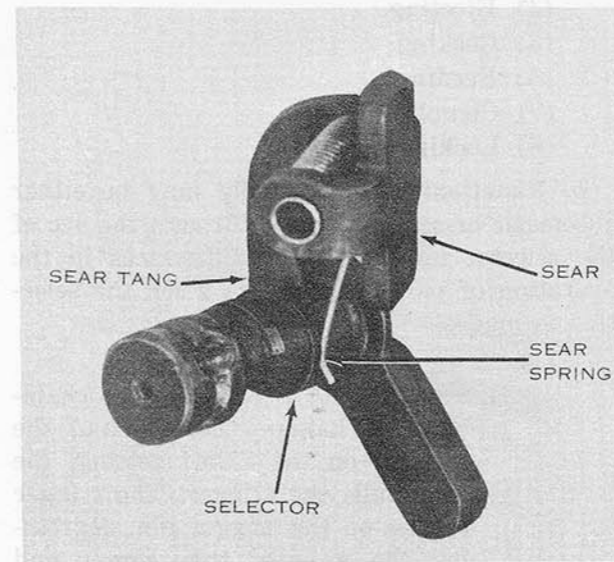

Figure 25. Position of sear tang and sear spring on the selector lever.
d. Turn the selector to the automatic position. Insert the automatic sear into its position in the receiver. Insure that the sear tang is positioned in the slot on the left rear side of the selector lever and the long end of the sear spring is in the groove on the left front of the selector lever (fig. 25). This insures that the